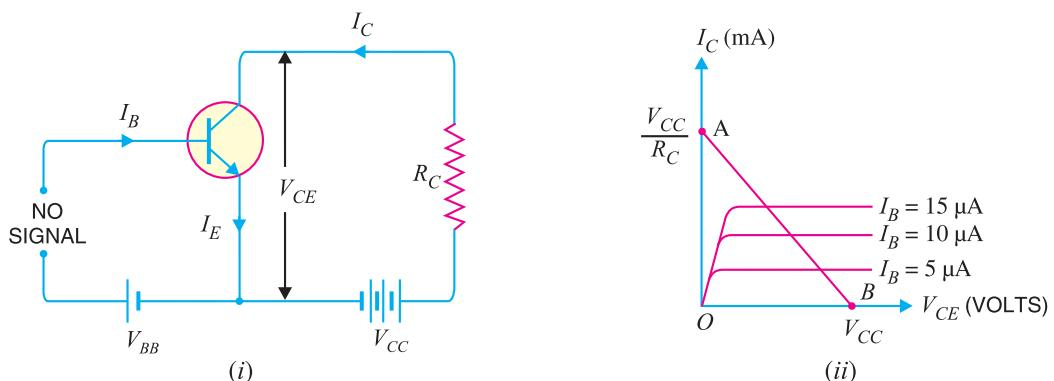

Fig. 8.35
d.c. load line. Consider a common emitter *n-p-n* transistor circuit shown in Fig. 8.35 (i) where no signal is applied. Therefore, d.c. conditions prevail in the circuit. The output characteristics of this circuit are shown in Fig. 8.35 (ii).
This gives the first point B ($OB = V_{CC}$) on the collector-emitter voltage axis as shown in Fig. 8.35 (ii).
This gives the second point A ($OA = V_{CC}/R_C$) on the collector current axis as shown in Fig. 8.35 (ii). By joining these two points, d.c. *load line AB is constructed.